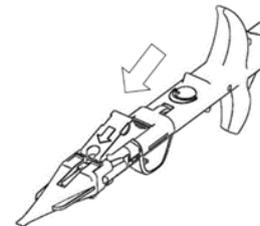

Fig. 3
6. Push the red stopper forward until it clicks to secure the cartridge nozzle and at the same time to release the arretation of the pushing rod, as shown in Fig. 3. Avoid premature pushing of the rod which is freely movable after this action.